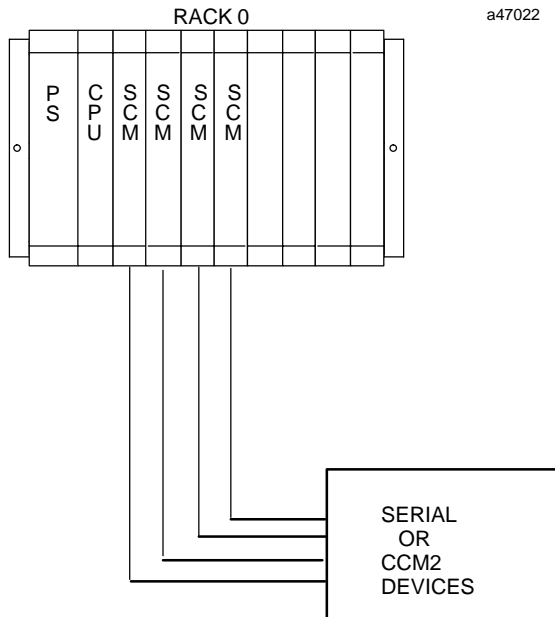

Figure 1. Typical PLC System Configuration
- Install in slots 2 through 5 of rack 0 (see Figure 1).